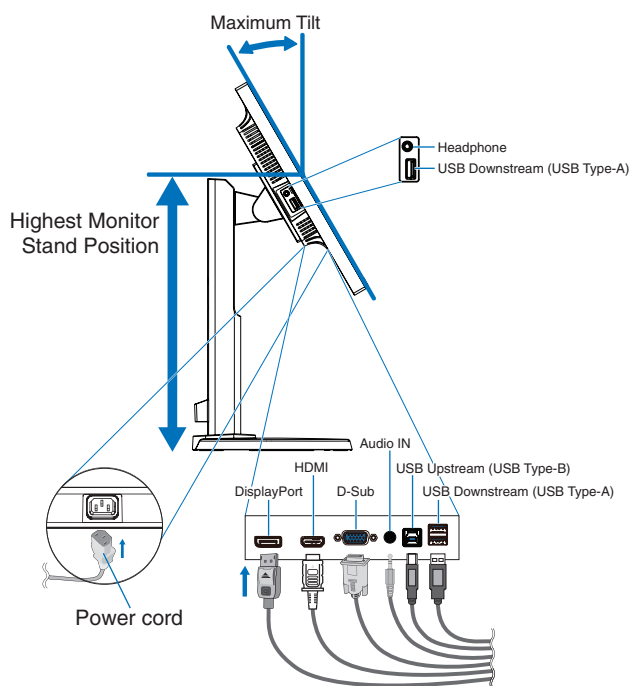
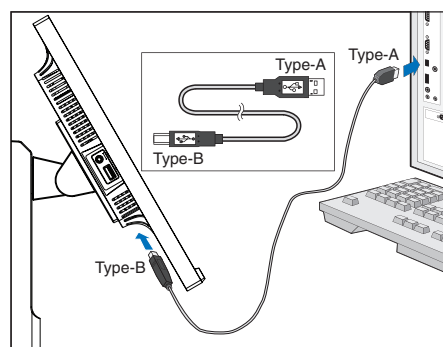

Figure C.1
Figure C.1a
- Connect all cables to the appropriate connectors (**Figure C.1**). When using the USB cable, connect the Type-B connector to the USB upstream port on the rear side of the monitor and the Type-A connector to the downstream port on the computer (**Figure C.1a**). If using the cord from a USB device, plug it into the downstream port of the monitor.